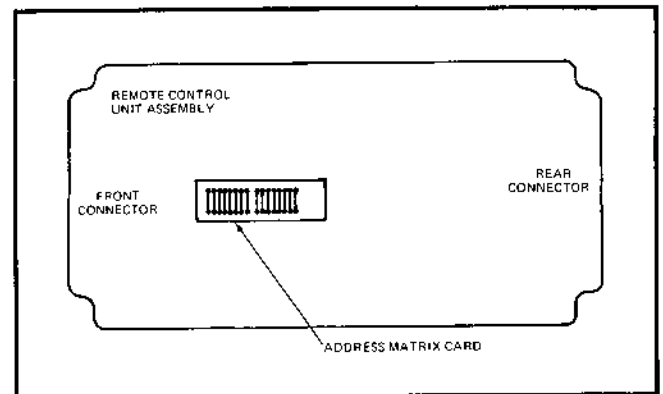

Figure 601-1. Location of Address Matrix Card
*Before installing the RCU in the 5200A, install a properly jumpered Address Matrix card on the RCU as shown in Figure 601-1. Jumpering information for the Address Matrix card is contained in paragraphs 601-22 through 601-24.*